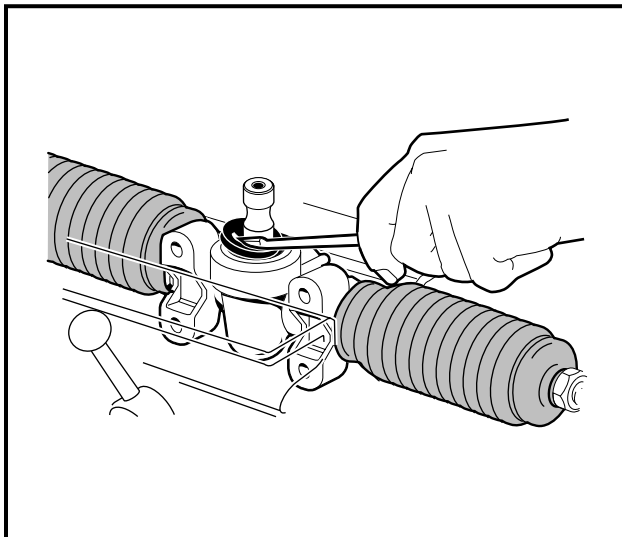

Figure 7-14 Remove Dust Seal
5. Remove rack screw nut (8), rack guide screw (7), rack guide pressure spring (6) and the rack guide (5).
6. Remove the universal joint assembly from the pinion (3) by removing the bolt and then sliding off the universal joint.
7. Remove the dust seal (**Figure 7-14, Page 7-8**).